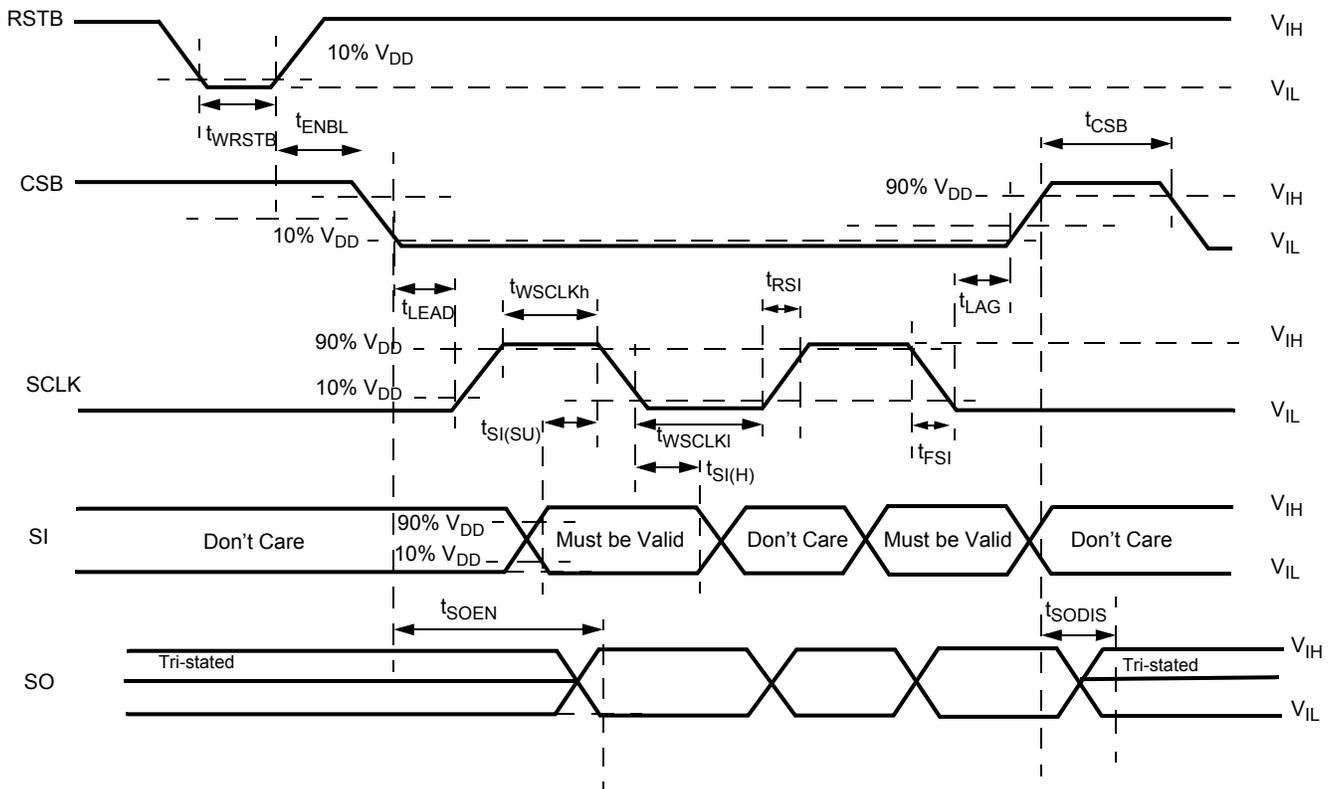
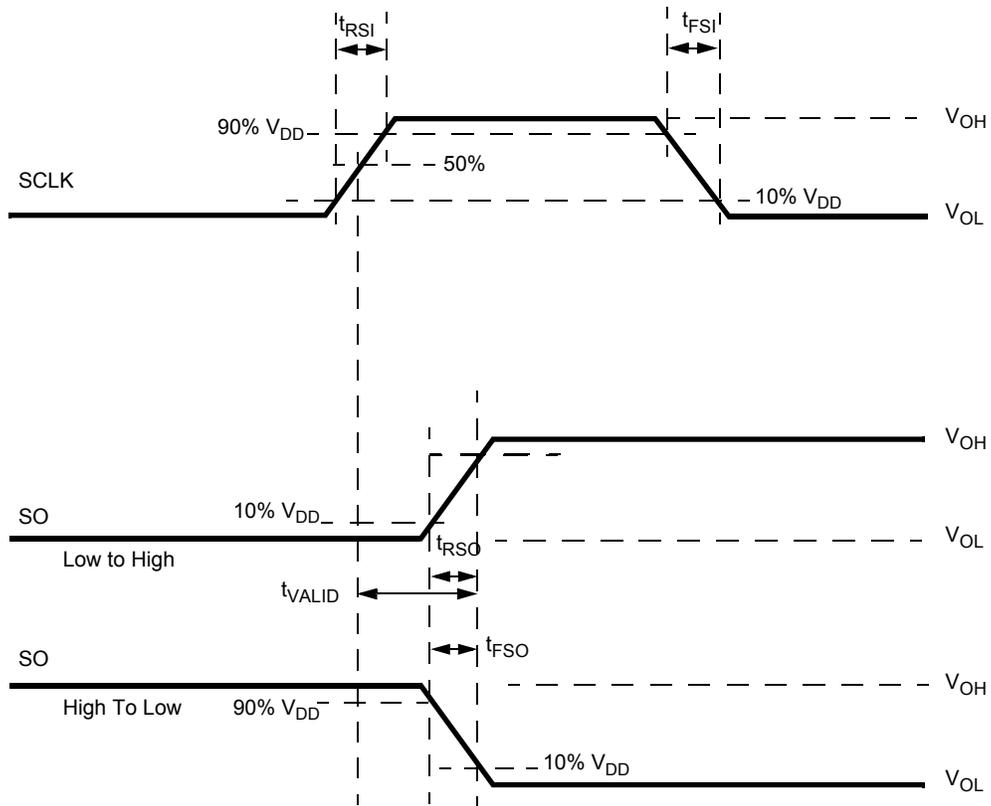

Figure 7. Timing Requirements During SPI Communication
Figure 8. Timing Diagram for Serial Output (SO) Data Communication
edge of CSB. The SO output driver is enabled when CSB is logic [0]. CSB should transition from a logic [1] to a logic [0] state only when SCLK is at logic [0] (Figure 7 and Figure 8). CSB is internally pulled up to  $V_{DD}$  through  $I_{UP}$ .
Serial input (SI) data bits are shifted in at this pin. SI data is read on the falling edge of SCLK. 16-bit data packages are required on the SI pin (see Figure 7), starting with bit D15 (MSB) and ending with D0 (LSB). All the internal device registers are addressed and controlled by a 4-bit address (D9-D12) described in Table 10. Register addresses and function attribution are described in Table 11. The SI pin is internally connected to a pull-down current source,  $I_{DWN}$ .